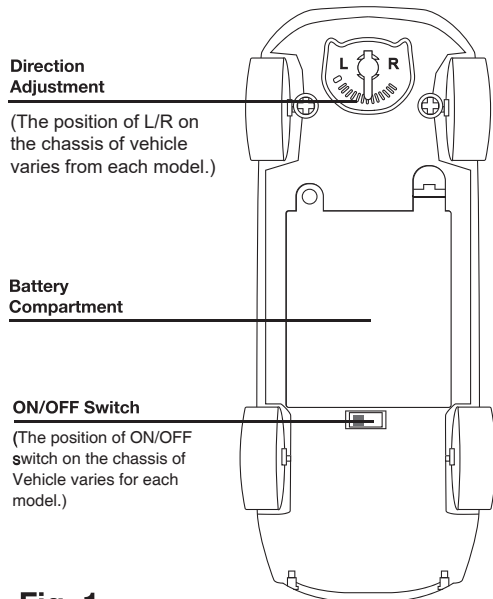

Fig. 1
For Vehicle (Fig. 1 and Fig. 2)
- If the vehicle does not run in straight line, adjust the direction adjustment on the Vehicle chassis (Fig. 1).